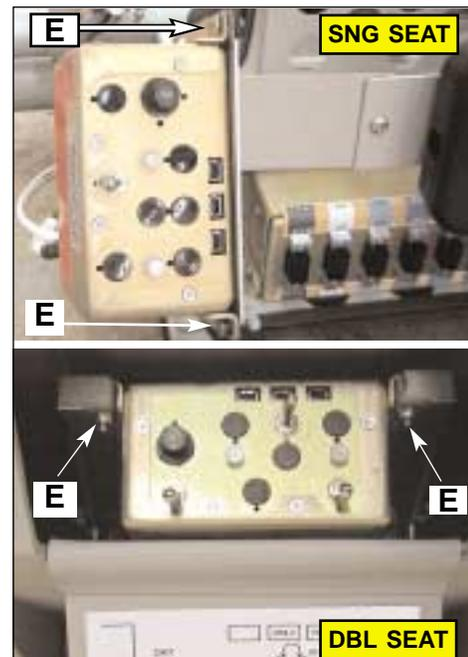

FIG. 307D:
- (6) Remove SJB by means of its attaching screws (E) (see Fig. 307D): two screws on SNG seat, four on DBL seat.